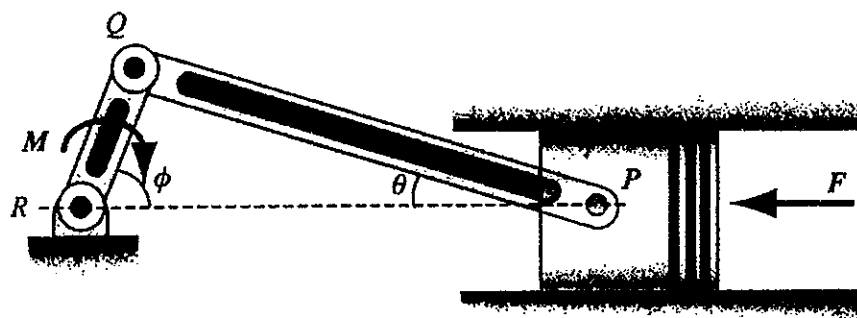

Fig. 6 An engine system
6. A couple  $M$  is applied to crank  $QR$  in order to maintain the equilibrium of the engine system when a force  $F$  is applied to the piston, as shown in Fig. 6. Please use the method of virtual work to express the relationship between  $M$  and  $F$ , using  $\Phi$ ,  $\theta$ , and  $QR$ . (15%)